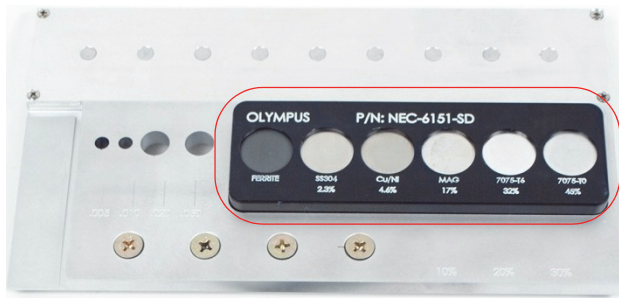
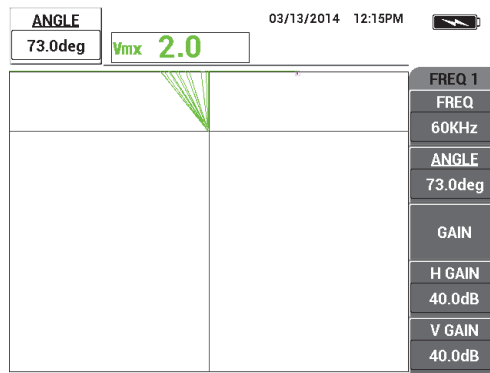

Figure 5-74 The section of the standard used for impedance plane theory
Figure 5-75 Adjusting the signal angle to 90°
9. Gently touch the ferrite sample with the probe, and continue to repeatedly gently tap the sample (see Figure 5-74 on page 182). While tapping, press the ANGLE key () and adjust the ferrite signal angle until it is oriented straight upward (90°) [see Figure 5-75 on page 182].